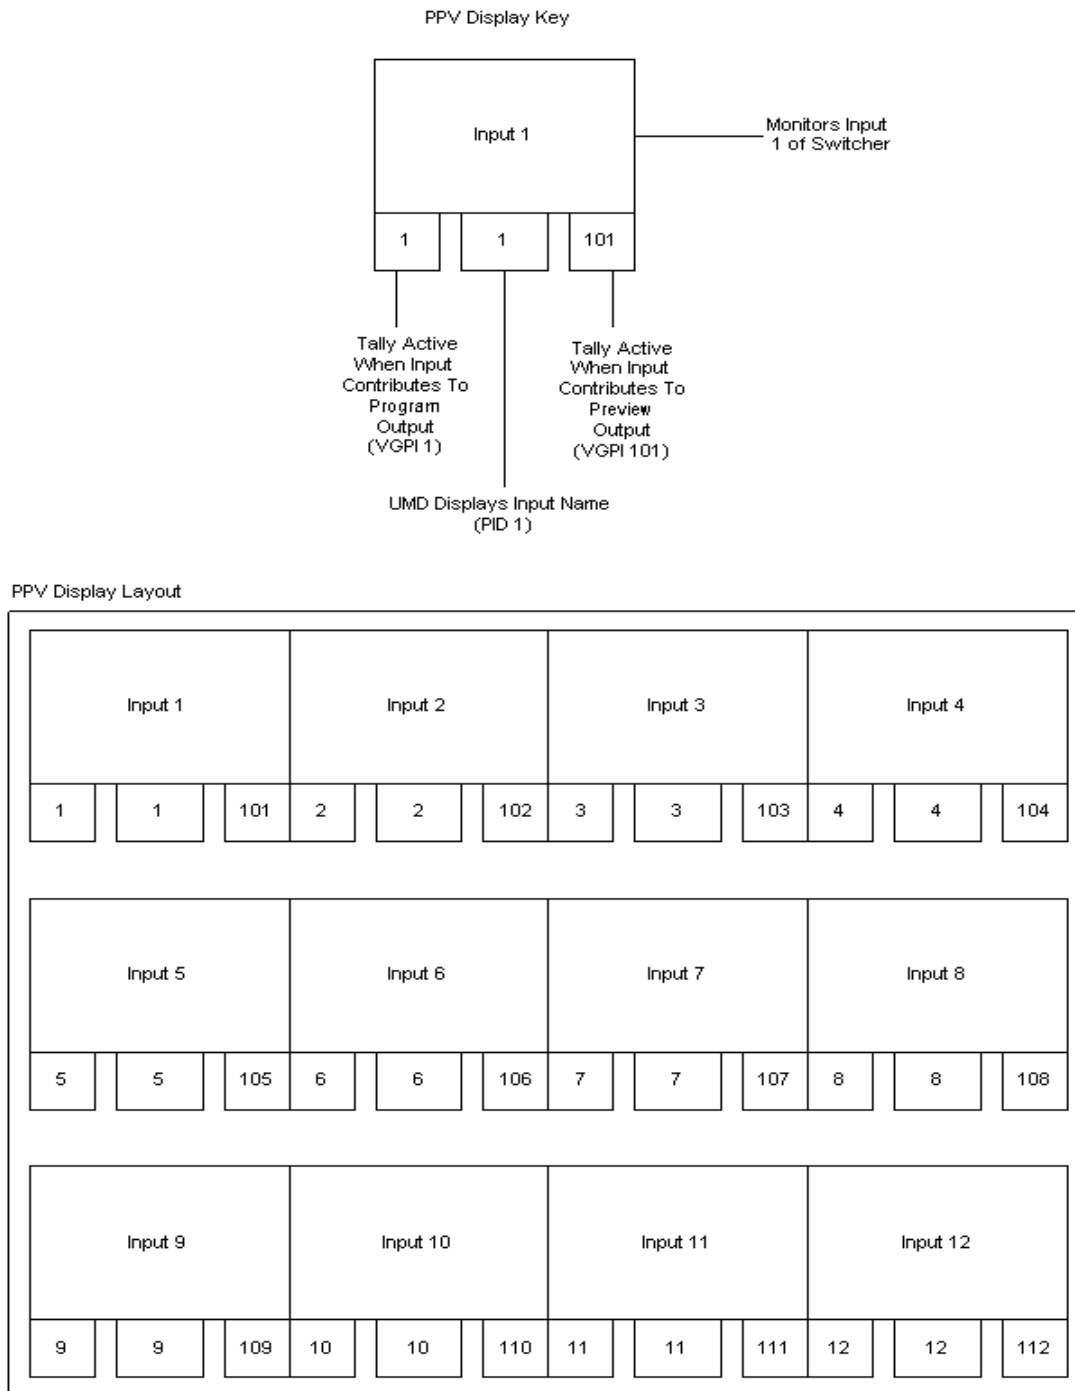

Figure 1-2: 7700PTX-CTP Example
5. The MVP's output card display matches that of Figure 1-2 where each input has associated with it a program tally, a preview tally, and a UMD.